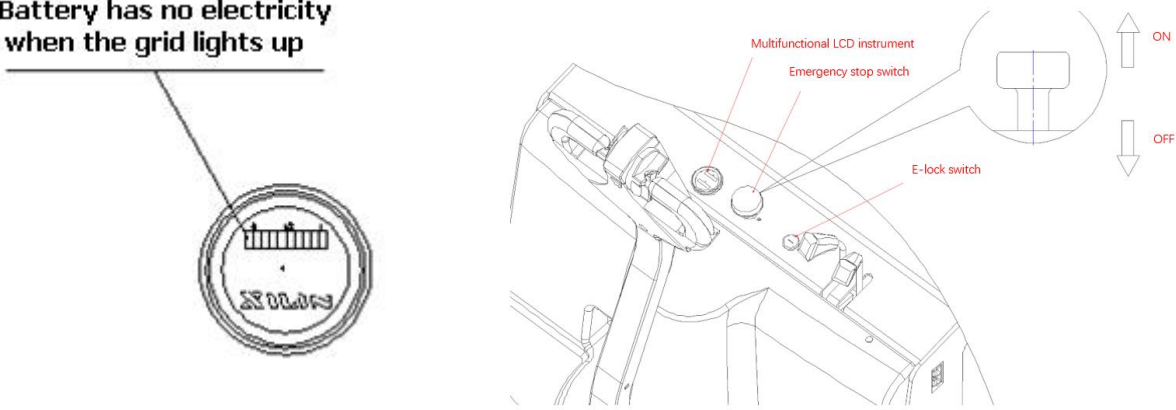

Fig.1
5. 1. 2 Check whether the battery has power. The method is as shown in Figure 1. Pull out the main power switch to open the main power supply, open the switch lock on the handle, and check the electric energy meter